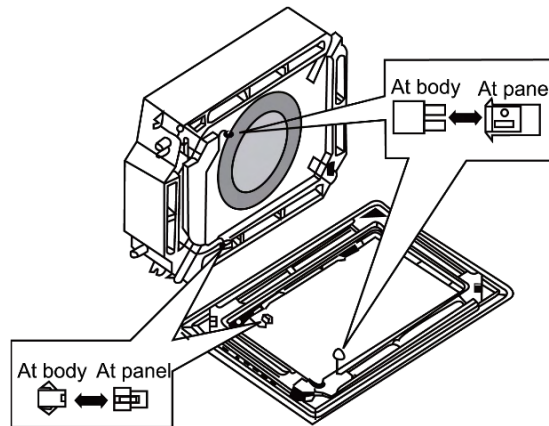

Fig.4.4.3
- (3) Connect the decoration panel terminals (Female) to body terminals (male) as shown in figure4.4.3.